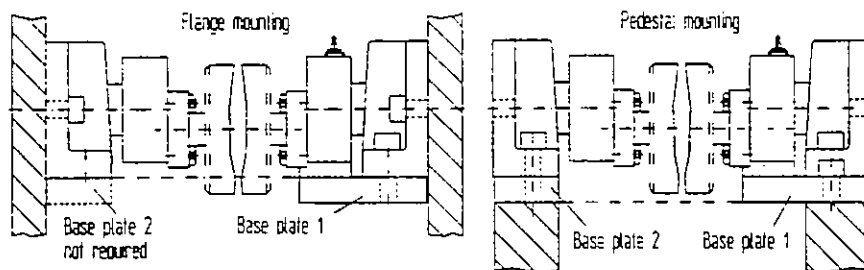

Fig. 5
- Secure the measuring device to the machine frame as a pedestal bearing or a flange bearing (Fig. 5). When the measuring device is set up as a flange bearing, base plate (2) is not required. Arrange the base plates (1 and 2) horizontally.